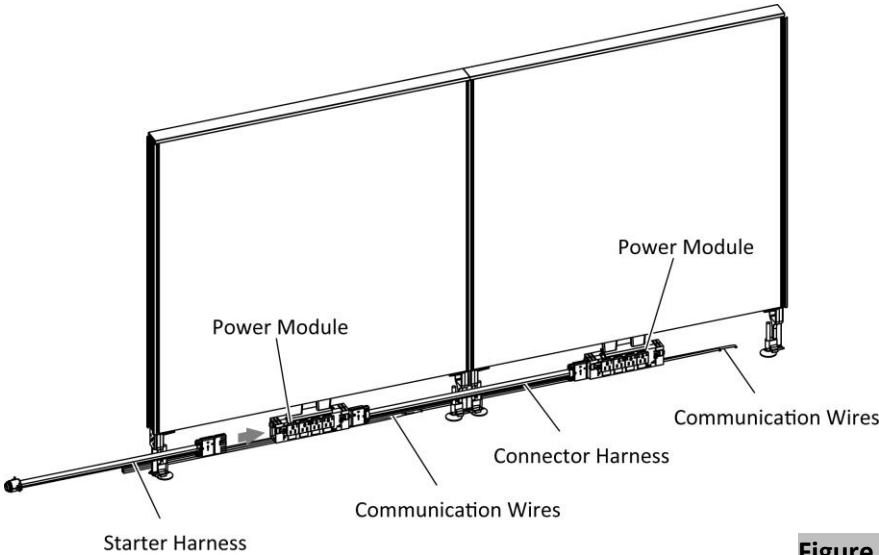

Figure 3
- 4. Connect the correct electrical harnesses and lay the communication wires, (Figure 3).